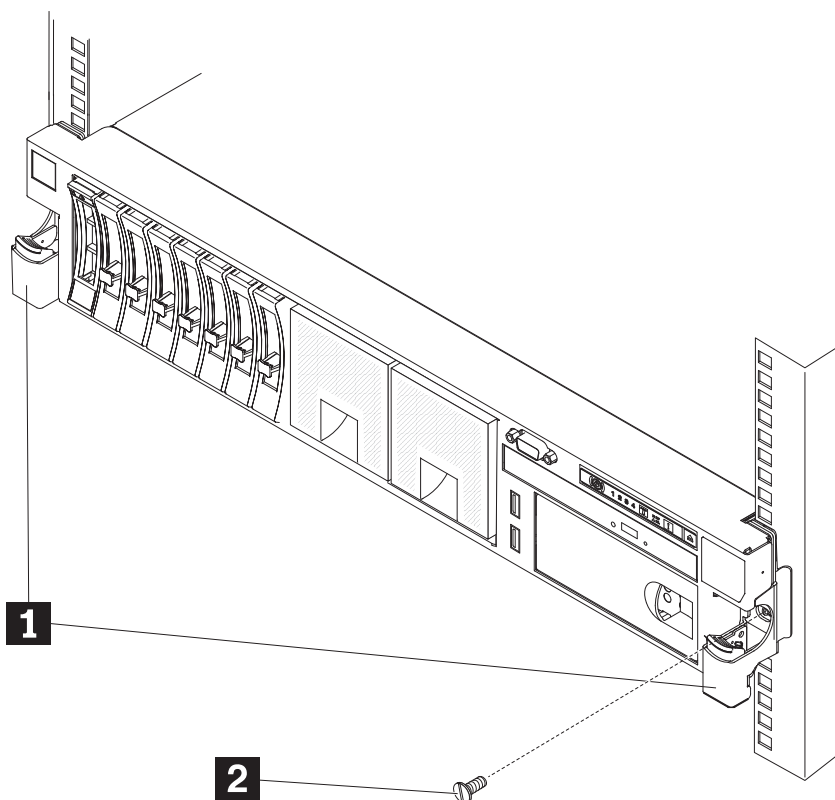

Figure 36. Installing the front screws
10. Optional: If you are in a vibration-prone area, or if you are preparing to move the rack cabinet, install the front screws as shown in Figure 36 on page 34.